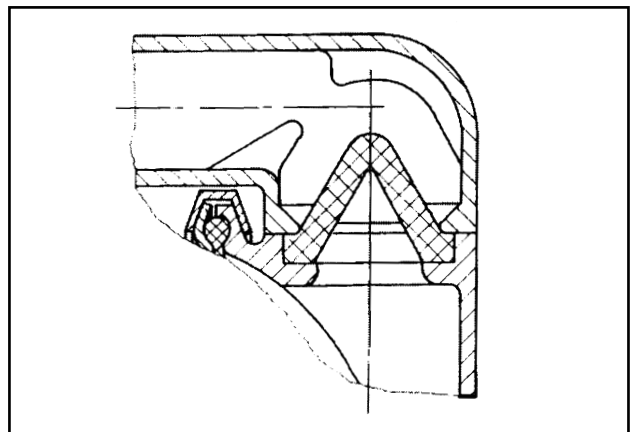

Fig. 19: Conical valve
- The point of the conical valve must show in flow direction, i.e if the suction port of the pump is at the bottom, the valve point must face upward (Fig. 19).